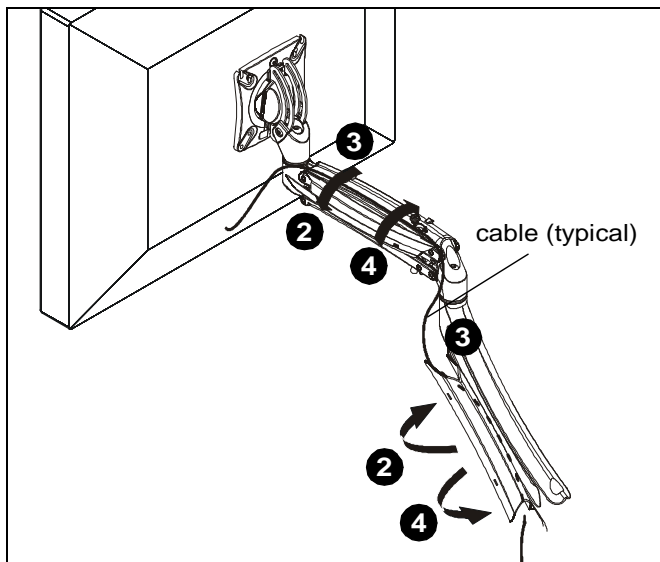

Figure 22
3. Route cables through cable management channels. (See Figure 22)
4. Close cable management covers on monitor arm. (See Figure 22)